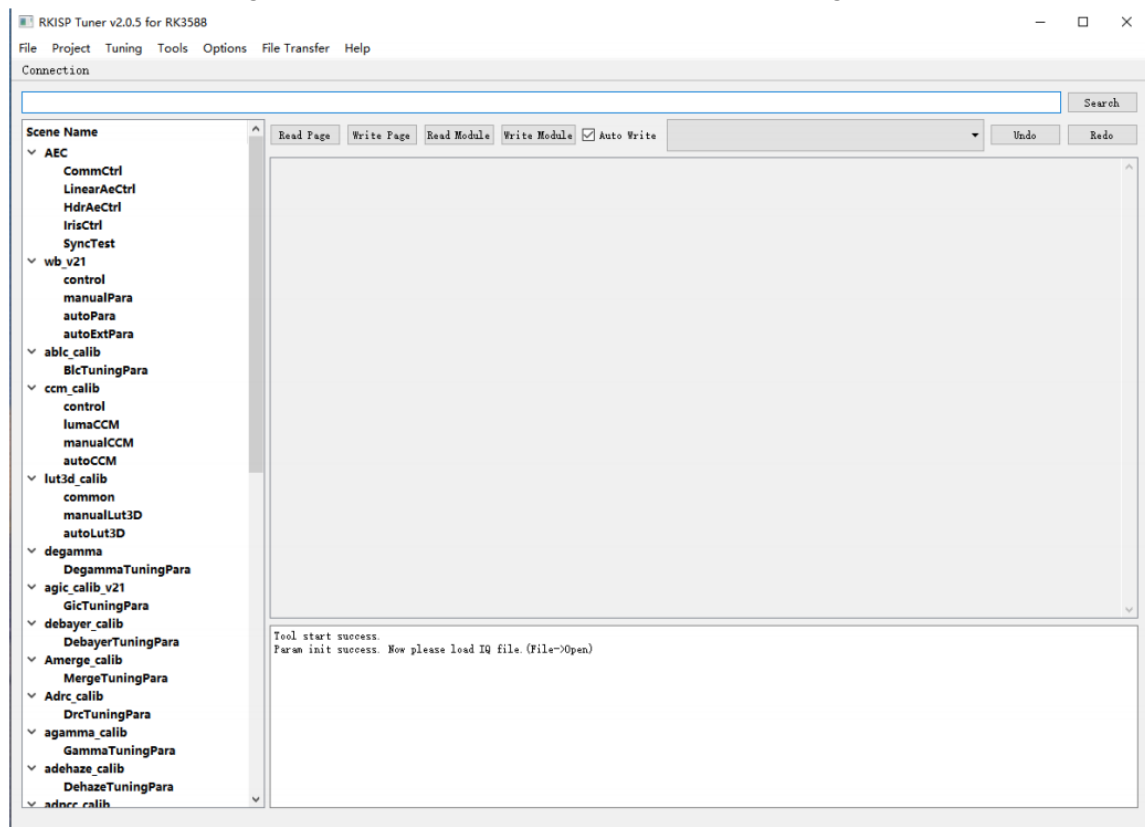

Figure 3-3-2
3. Click **OK**, the tuning UI of the selected chip and version as shown in figure 3-3-2.